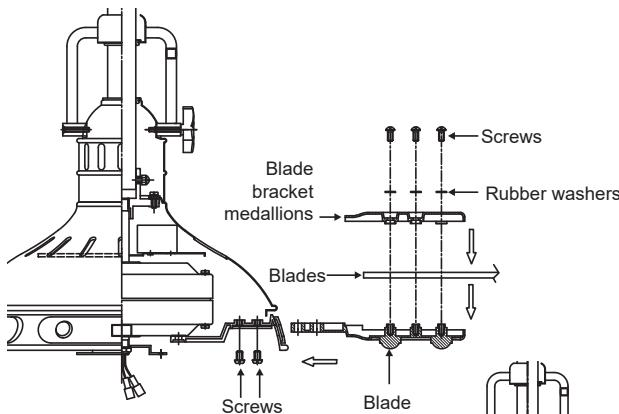

Fig. 17
**Step 1.** Place a blade between a blade bracket and a blade bracket medallion. Attach all three pieces using the screws and fiber washers provided. (Fig. 17)
**Step 2.** Attach each blade assembly to the motor using two mounting screws for each blade assembly. (Fig 17)